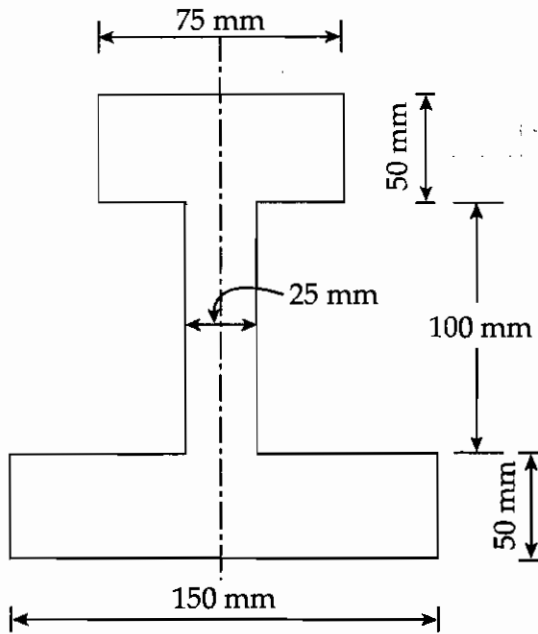

Figure 5
2. (a) The cross-section of cast iron beam is shown in Figure 5. The top flange is in compression and bottom flange is in tension. Permissible stress in tension is 30 N/mm^2 and its value in compression is 90 N/mm^2 . Determine how much concentrated load beam can carry at center of 5 m span. Given ends of beam are simply supported.